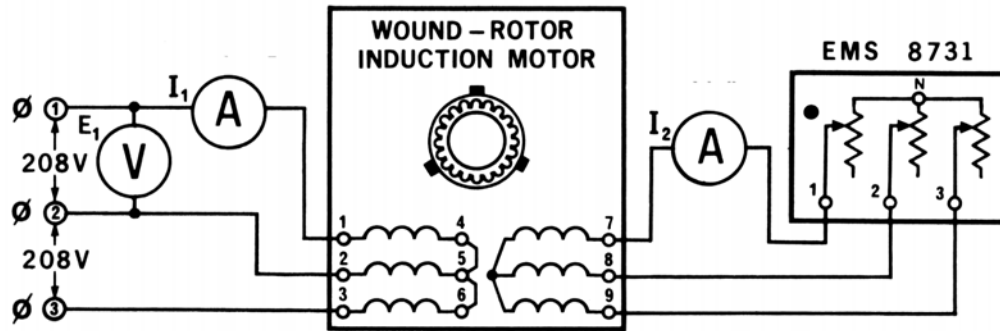

Figure 13-5
- 9) Construct the circuit shown in Figure 13-5.